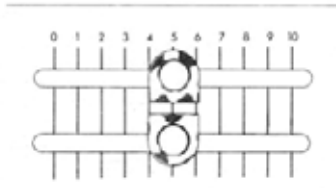
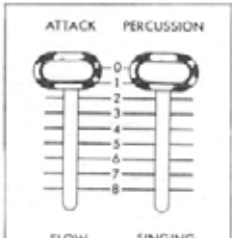

Figure 4.
Figure 5.
To adjust Pitch, set Attack-Perussion slides (figure 5) to "8", and all "Instant Set Tabs" (figure 8) to OFF position.
- EXPAND**—This control is a sub-division of the traveler circuit. It provides "capturing" effect when used in conjunction with traveler (figure 4) and Attack/Percussion group (figure 5). Creates brass, under-water effect, bubbling effect, growl, etc.